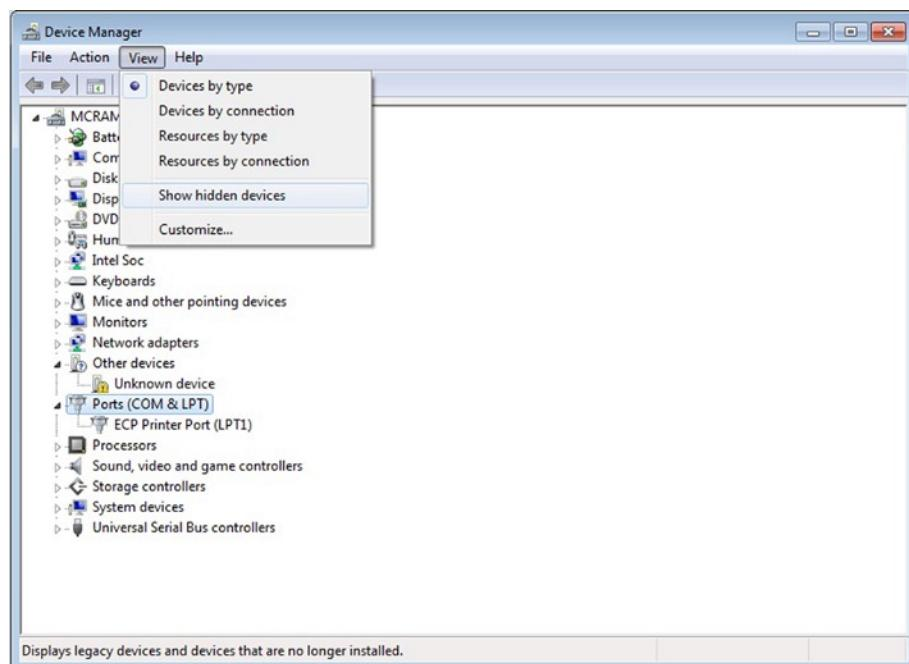

Figure 3-20. Enabling the "Show Hidden Devices" option
3. The Device Manager will show up. Choose View ► Show Hidden Devices. See Figure 3-20.